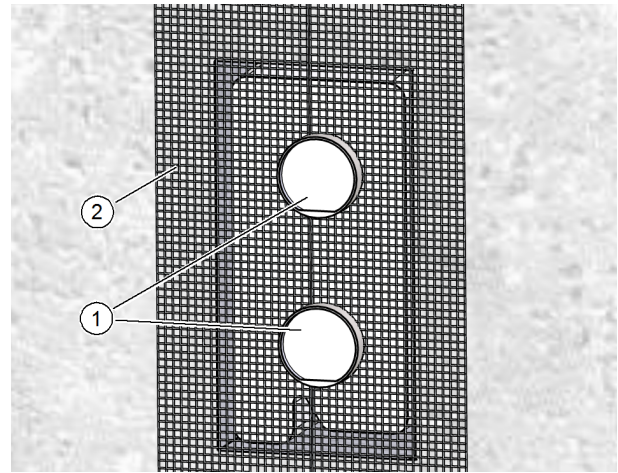
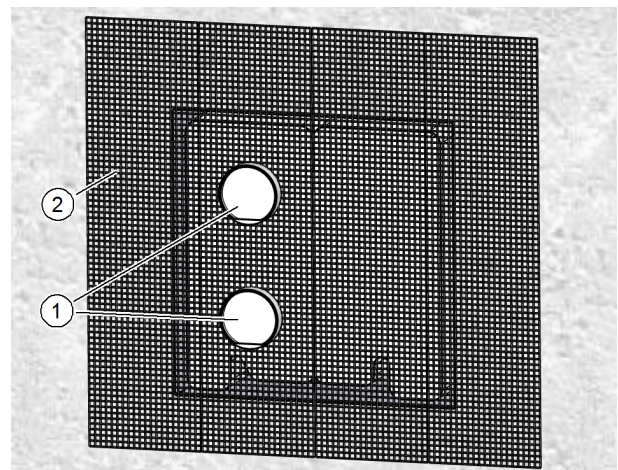

Fig. 23: Plastering the wall box **with-**out filler piece
Fig. 24: Plastering the wall box **with** filler piece
- ▶ Insert the protective sleeves (item 1 in Fig. 23 and Fig. 24). They should extend beyond the solid wall so that they will end flush with the subsequent plaster coat. The protective sleeves provide the bonding surface for the external plaster.
- ▶ Apply the plaster scrim (item 2 in Fig. 23 and Fig. 24) to the outside of the wall box, to the masonry and to the facade insulation.